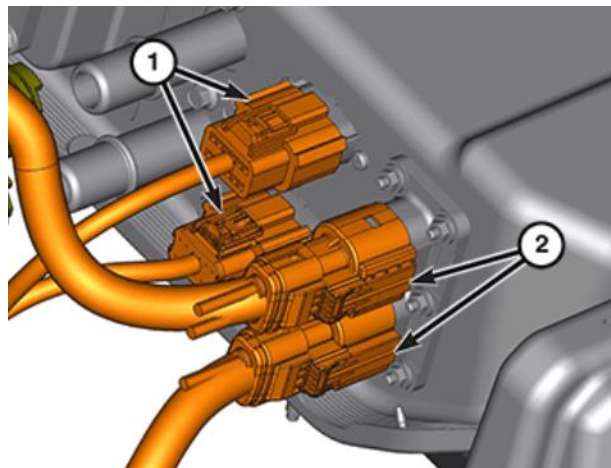

Figure 17 – Wire Harness
- 27. Unlock and disconnect the Power Inverter Module (PIM) high-voltage wire harness connector (1) from the high-voltage battery. Cap the connector on the high-voltage battery with the Covers, HEV Battery Terminal 2035100082
- 28. Unlock and disconnect the low-voltage wire harness connectors (1) from the high-voltage battery (Figure 17).
- 29. Unlock and disconnect the On-board Charging Module (OBCM) and Electric Coolant Heater (ECH) high-voltage wire harness connectors (2) from the high-voltage battery.